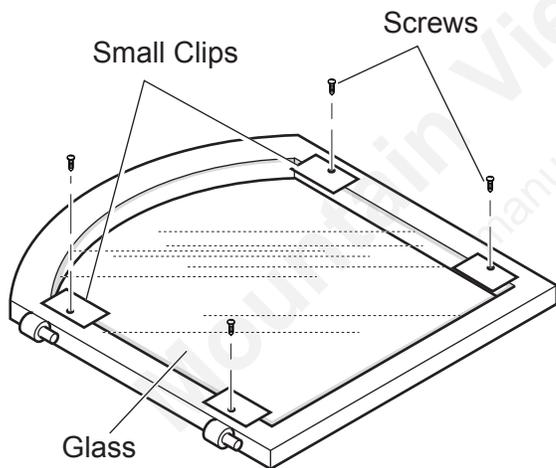

Figure 48 - Loosening Small Clips to Replace Glass
2. Loosen the clips with a Phillips screwdriver. *See Figure 48.*
5. Put new glass panel in position. Leave space around glass for thermal expansion. *See Figure 48.*
6. Tighten clips with Phillips screwdriver. *See Figure 48.*